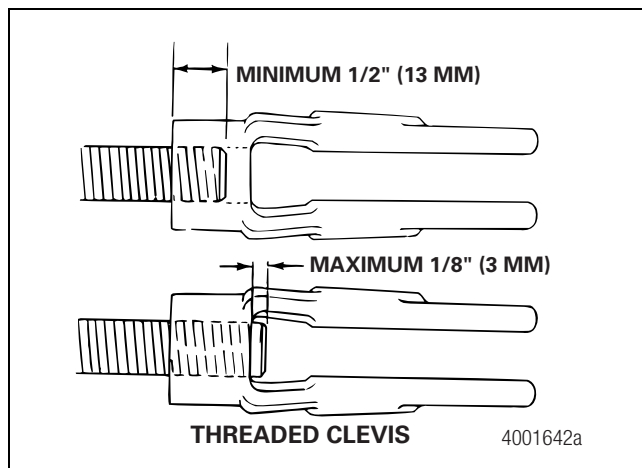

Figure 11.4
- Thread engagement between the clevis and the push rod must be at least 1/2-inch (12.7 mm). Figure 11.4.